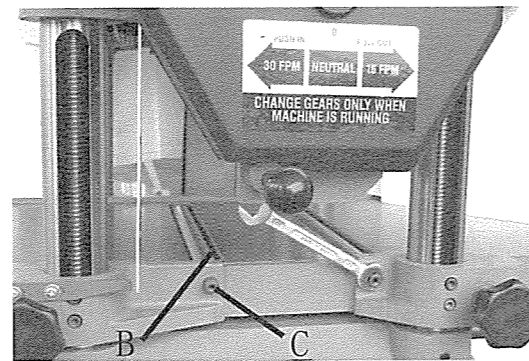

Fig. 13
2. Lay straight edge Fig.13 across both rollers, loosen the screws (B) Fig.13, and turn the eccentric shafts (C) to raise or lower the table rollers, when the proper height is obtained, tighten screws (B) as shown in Fig.13. Table rollers must be adjusted on the opposite end of table in the same manner.